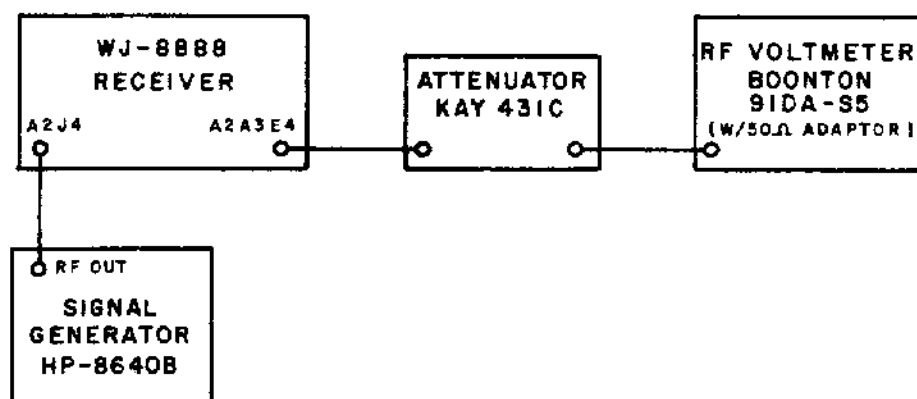

Figure 5-12. Test Setup, 1st LO Amplifier Test
- (1) Carefully unsolder the lead connecting A2A3E4 to A2R42 and A2U1 pin 1.
- (2) Connect the equipment as shown in Figure 5-12.
- (3) Set the signal generator for a +20 dBm 81 MHz unmodulated RF output.
- (4) Set the attenuator for 10 dB of attenuation.
- (5) The RF voltmeter reading should be at least +20 dBm. Slowly tune the signal generator from 81 MHz to 113 MHz, maintaining a constant +20 dBm output. The RF voltmeter should indicate an output of at least +20 dBm at all frequencies between 81 MHz and 113 MHz.